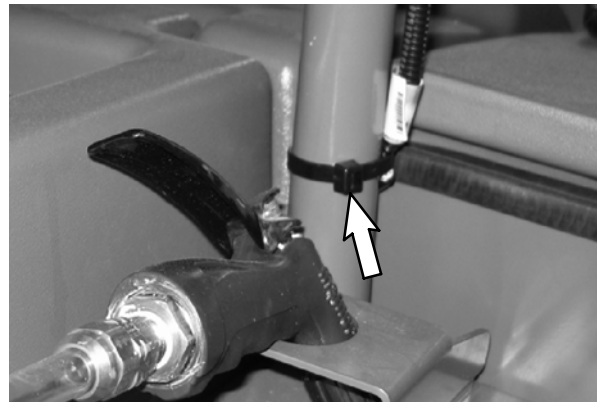
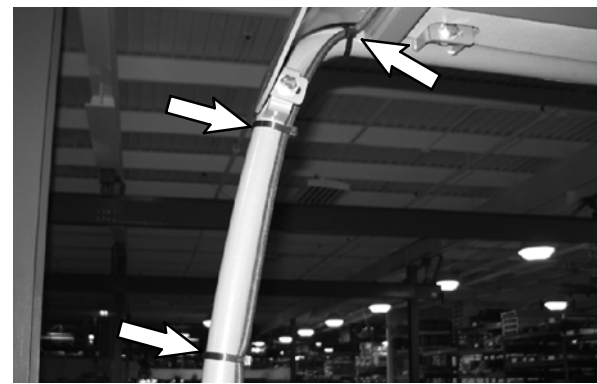

FIG. 8
FIG. 9
8. Use four cable ties (7) to secure the warning/overhead harness (5) to the leg of the overhead guard. (Fig. 8 and Fig. 9)